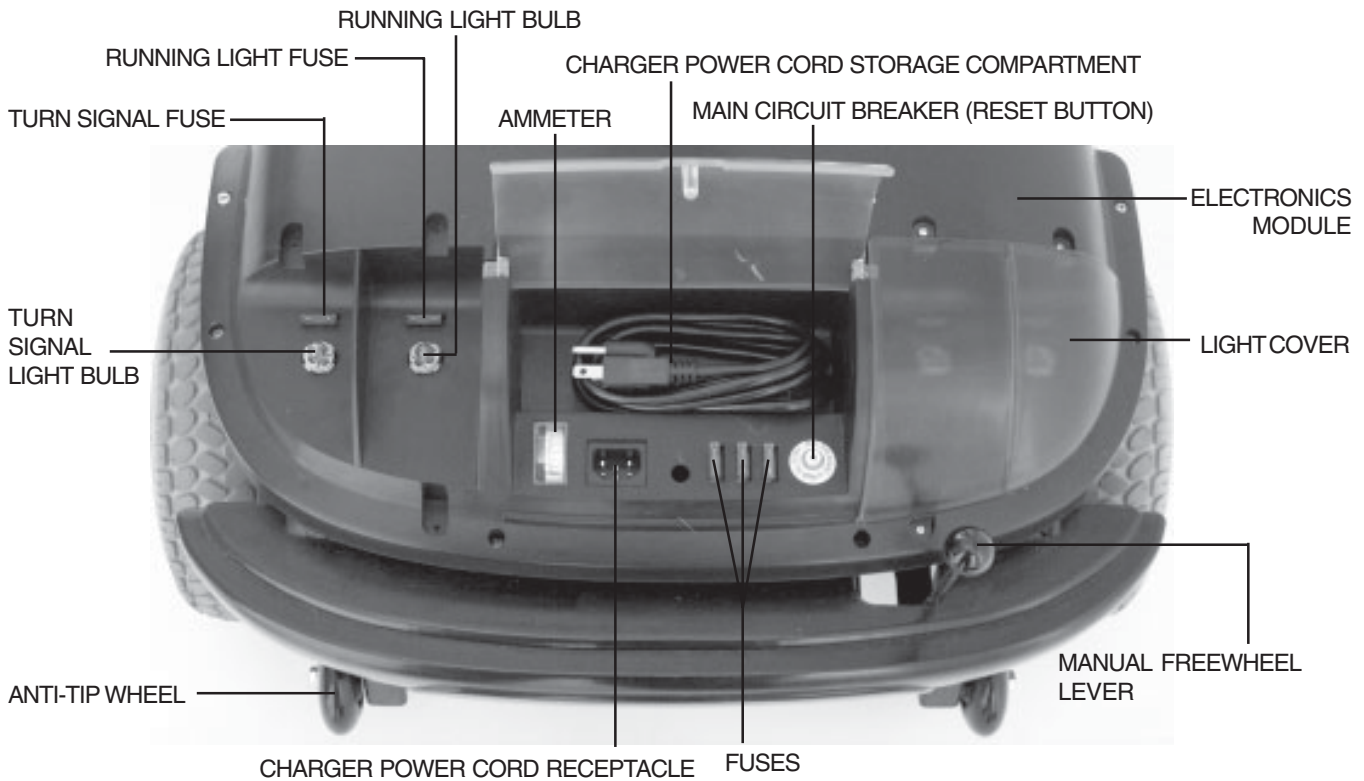

Figure 7. Rear Section (Left Light Cover Removed For Clarity)
The onboard battery charger (not shown), the charger power cord receptacle, the batteries (not shown), the electronics module, the main circuit breaker (reset button), the ammeter, the manual freewheel lever, the anti-tip wheels, and the motor/transaxle assembly (not shown) are located on the rear section of your Hurricane PMV. See figure 7. Refer to IX. "Disassembly and Assembly" for instructions on removing the rear shroud.
When the voltage in your Hurricane's batteries becomes low or your Hurricane PMV is heavily strained because of excessive loads or steep inclines, the main circuit breaker may trip to protect your Hurricane's motor and electronics from damage. See figure 7.
- The manual freewheel lever is located on the end of the motor/transaxle assembly at the right rear of the Hurricane PMV. See figure 7.